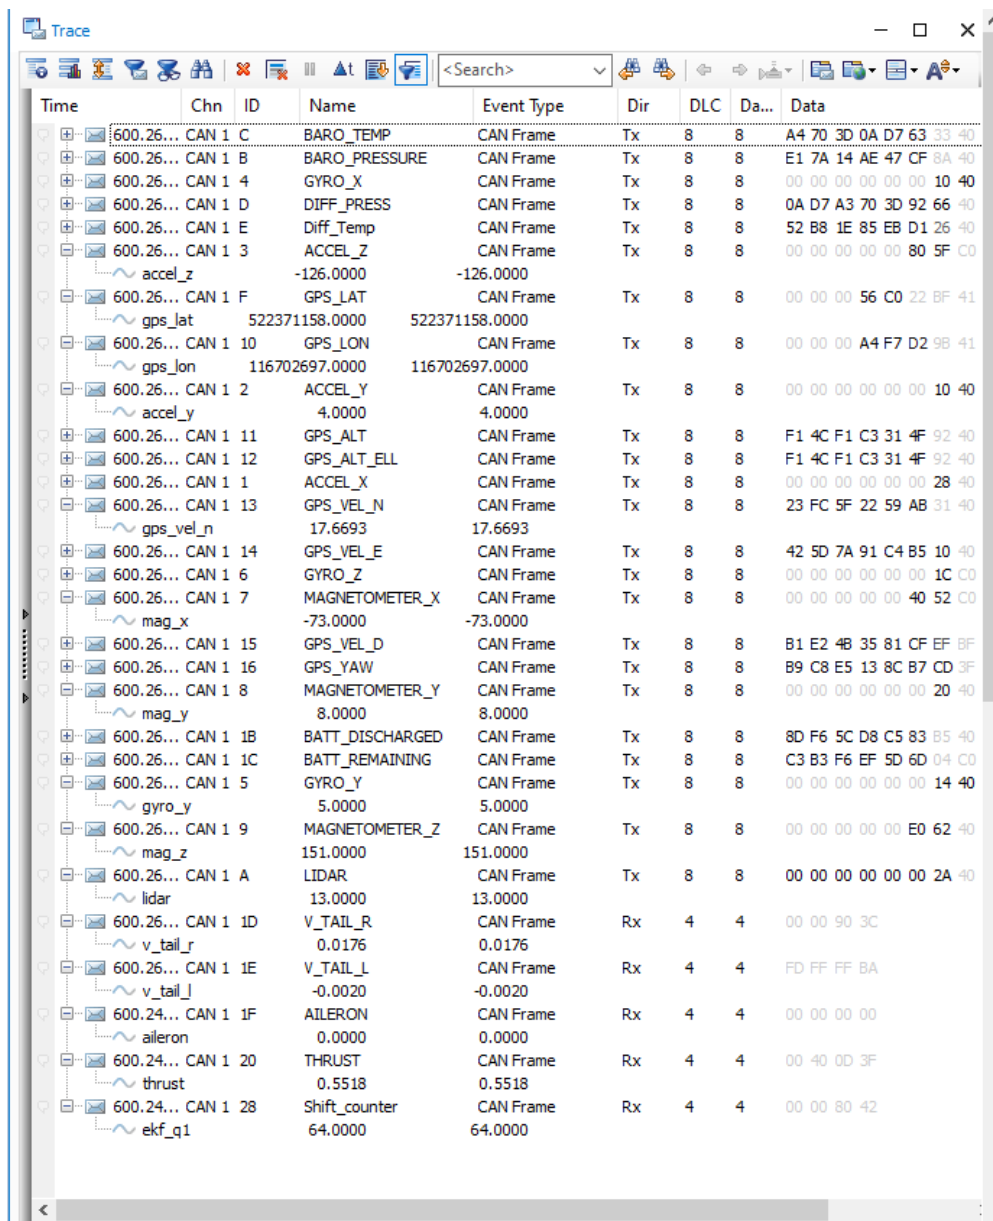

Figure 19: CANoe Trace Window.
3. **Trace:** This window lists all the incoming and outgoing messages with their corresponding timestamp (see Fig. 19). The depicted messages are defined through a database that is added in the simulation setup. Vector is using a proprietary database system called DBC.